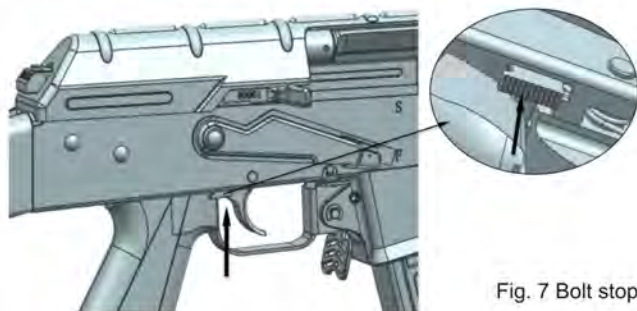

Fig. 7 Bolt stop action, Step 2
- (1) Pull the bolt handle to the extreme limit position.
- (2) Push the bolt-stop lever upward, release the bolt handle gently to let the bolt be moved forward by the return spring for a distance until it is caught by the bolt-stop lever (See Fig. 7).